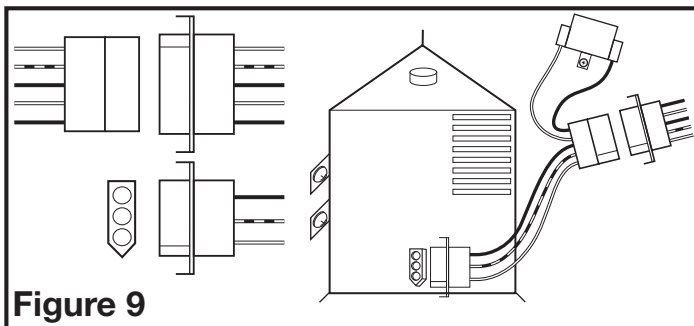

Figure 9
- Connect the wire harness by plugging the 3 pin quick connect end into the receptacle located on the side of the wire compartment cover. Confirm that the 5 pin quick connect end is plugged into the receptacle from the blower assembly. These cords will only fit one way into the receptacles (Figure 9).